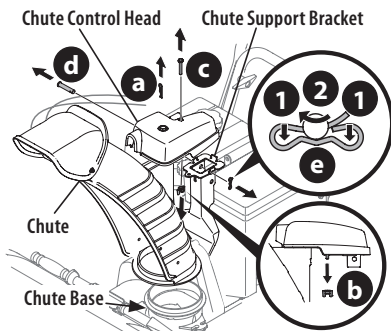

Figure 29
1. Remove hairpin clip (a), wing nut (b) and hex screw (c) from chute control head. Remove clevis pin (d) and bow-tie cotter pin (e) from chute support bracket (Figure 29).